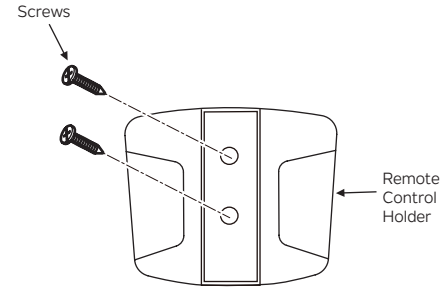

Fig. 24
**Step 1.** Attach the remote control holder with the two remote control holder mounting screw provided. (Fig.24)